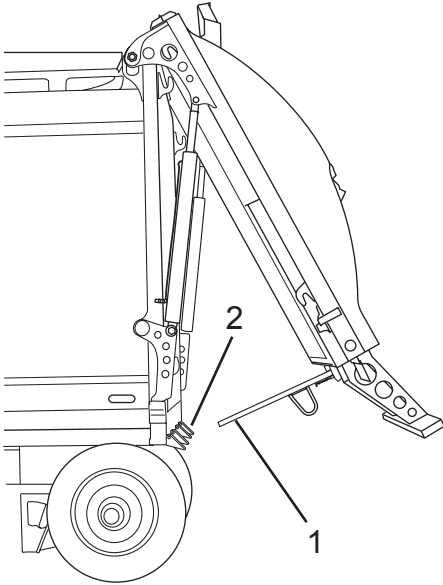

Figure 48
5. Position the end of the prop (Figure 48, Item 1) over the pocket (Figure 48, Item 2).